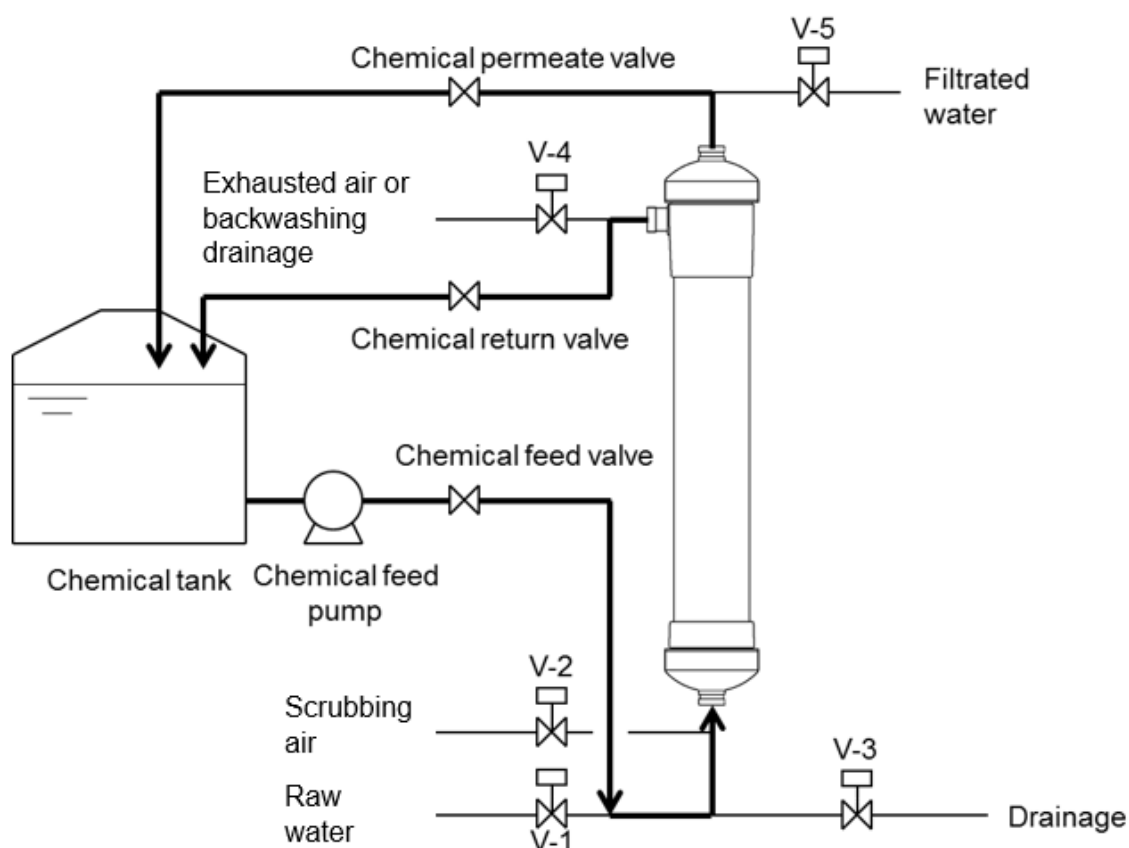

Fig. 9. Flow diagram for chemical cleaning
- (1) The flow diagram for cleaning simultaneously both outer surface and inside of hollow fiber membranes is shown in Fig. 9. The flow diagram can be changed case by case. Please contact us for further information if necessary.
- (2) Open the chemical return valve and then open the chemical feed valve.
- (3) Run the chemical feed pump to start for chemical circulation. Then, open the chemical permeate valve to let the chemical pass through the membrane.
- (4) Circulate the chemical for a fixed time.
- (5) Stop the chemical feed pump.
- (6) Drain the chemical and rinse the cleaning line and the module thoroughly with product water.
(7) The standard conditions for chemical cleaning are shown in Table 6.